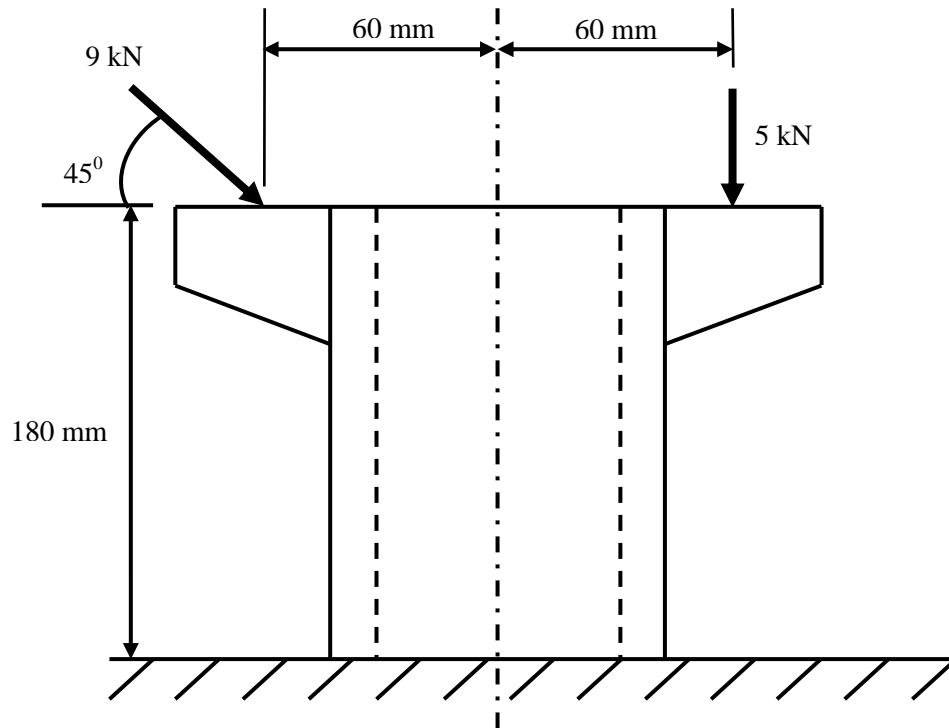

Fig Q6
6. A short vertical hollow cylindrical column, 180 mm high and fixed at the base, is 80 mm outside diameter and 10 mm thick. It carries concentrated loads of 9 kN and 5 kN as shown in Fig Q6.